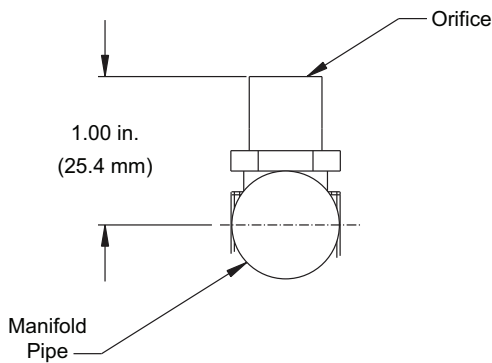

Fig. 56 — Orifice Projection
Refer to Fig. 56 for maximum projection dimension for orifice face to manifold tube.
5. If factory orifice has been removed, check that each orifice is tight at its threads into the manifold pipe and that orifice projection does not exceed maximum value. See Fig. 56.
Ensure each replacement orifice is tight as its threads into the manifold pipe and the orifice projection does not exceed maximum value. See Fig. 56.